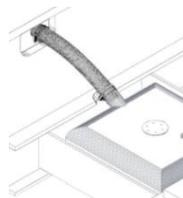

Figure 9
- Clean and install a fuel filler tube and vent hose between the truck's fuel tank neck and the fuel door on the bed frame. Clamp the filler tube tightly on both ends (See Figure 9).